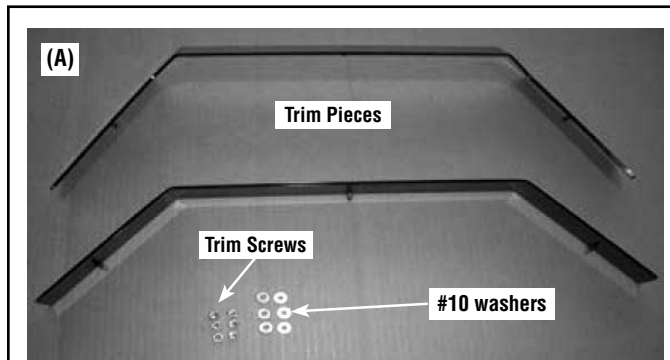

Figure 1 - Kit Contents
KIT CONTENTS (See Figure 1):
Step 1. Remove the trim pieces and hardware from its packaging and ensure that all pieces are present before beginning installation. Take care not to scratch finished surfaces (see *Figure 1*).